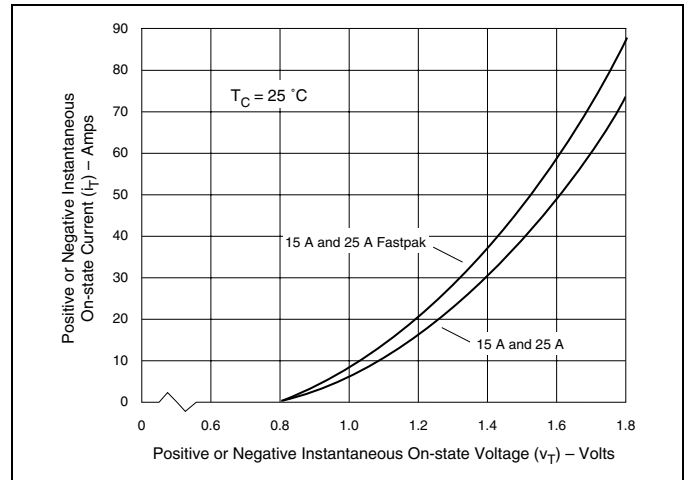
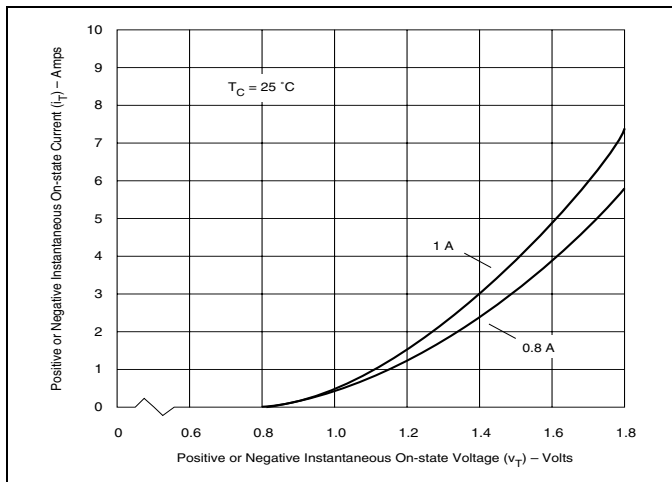

Figure E2.10 On-state Current versus On-state Voltage (Typical) (15 A and 25 A)
Figure E2.8 On-state Current versus On-state Voltage (Typical) (0.8 A and 1 A)
- (5) See Figure E2.8 through Figure E2.10 for i_T versus v_T.